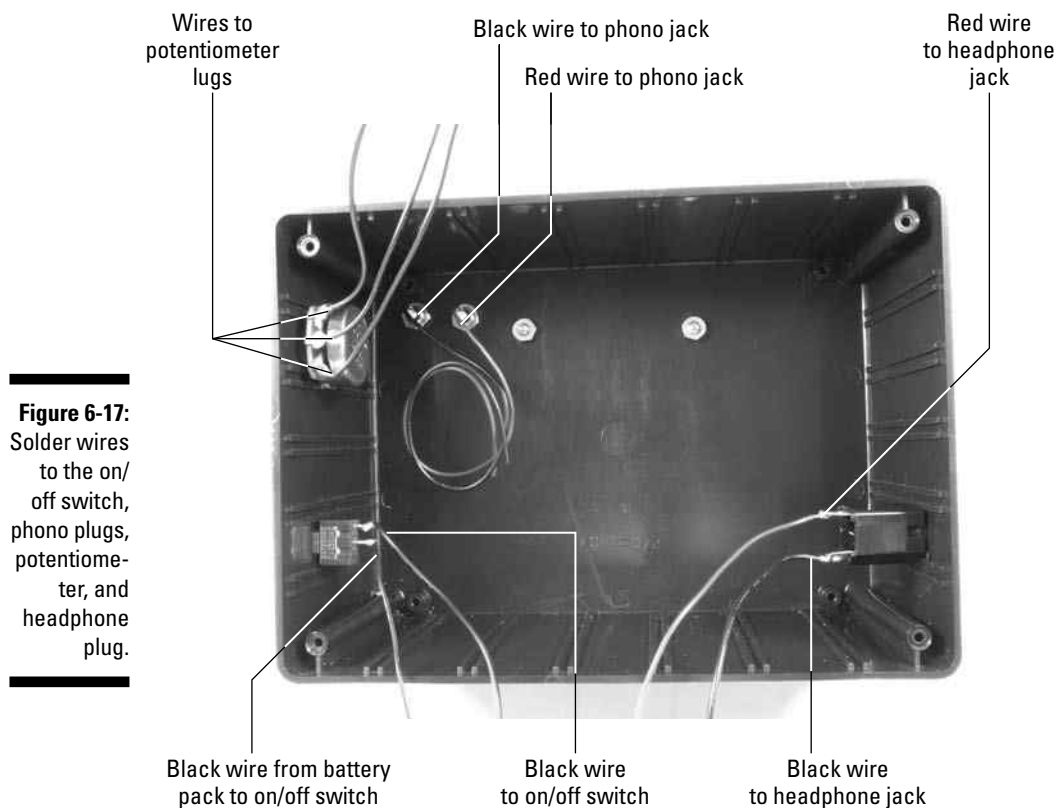

Figure 6-17: Solder wires to the on/off switch, phono plugs, potentiometer, and headphone plug.
8. Solder the black wire from the battery pack to one lug of the on/off switch and solder an 8" black wire to the remaining lug of the on/off switch, as shown in Figure 6-17.
9. Solder one 8" black wire to the lug on one of the audio jacks and solder one 8" red wire to the lug on the other audio jack, as shown Figure 6-17.
10. Solder 8" wires to each of the three potentiometer lugs, as shown in Figure 6-17.
11. Solder one 8" black wire and one 8" red wire to the lugs of the headphone jack, as shown Figure 6-17.